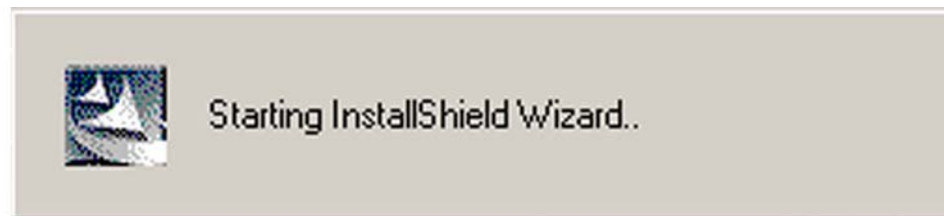

Figure 6-12: Audio Driver Install Shield Wizard Starting
Step 4: The install shield wizard for the audio driver starts. See **Figure 6-12**.